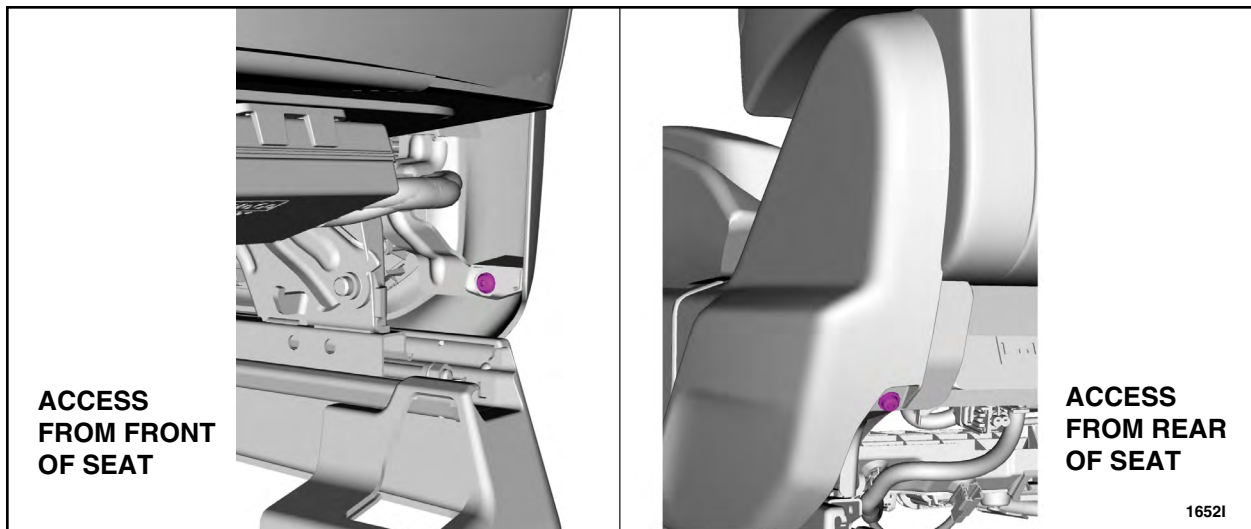

FIGURE 24
4. Remove the two side shield screws. See Figure 24.